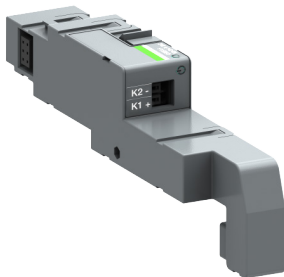

Fig. 5.6 Auxiliary power supply module, type OXEA1, is needed when Ekip Signalling, Com and Link -modules are mounted to automatic transfer switch OX_
The Ekip Programming -module is suitable to use with all ZTS(D) 30-1200 A, 200-480 Vac automatic transfer switches. You can connect the module via the programming port, see Fig. 5.6. The programming port is only compatible for use with Ekip Programming and Ekip Bluetooth -modules.
The Ekip Programming -module draws its power from the PC and connects one side directly to the programming port (see Fig. 5.6) and on the other to the USB port of the PC with the cable supplied.